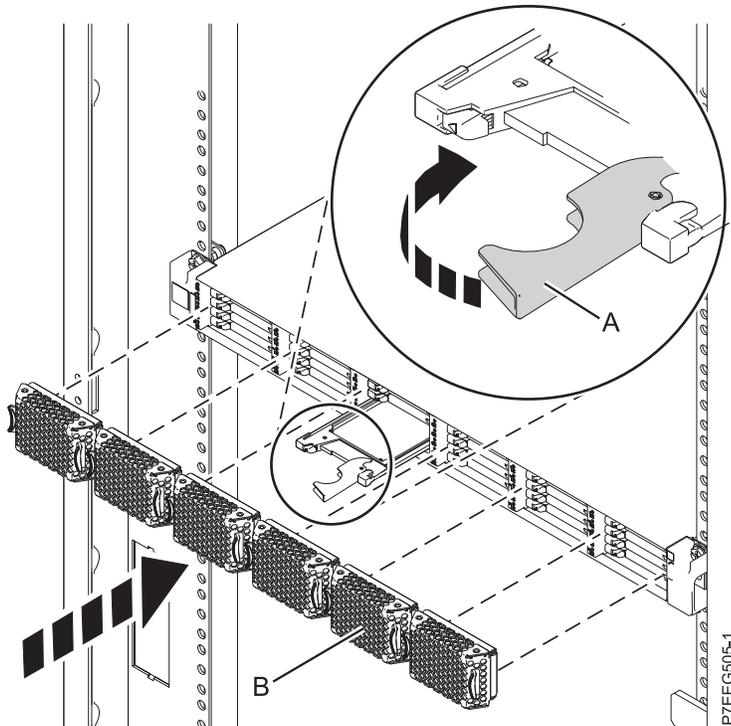

Figure 33. Replacing a solid-state drive in the ED/R1 PCIe storage enclosure.
4. When the solid-state drive identify LED flashes, slide the solid-state drive all the way into the ED/R1 PCIe storage enclosure until it is fully seated. Then rotate the handle (A) to the locked position. See Figure 33 on page 54.
5. Install the bezel (B).